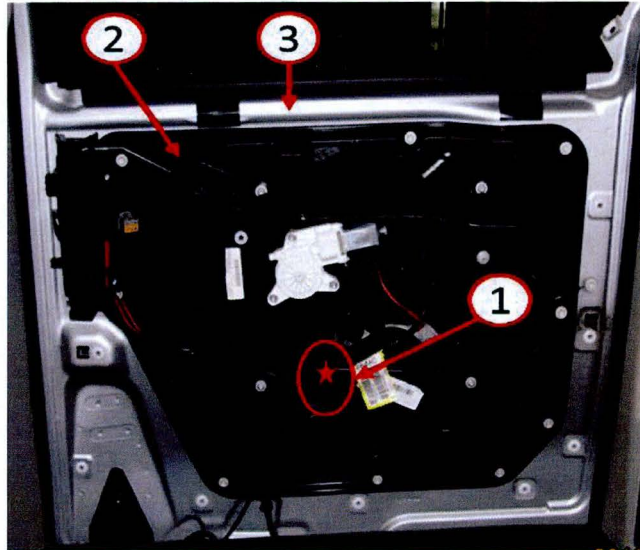

Fig. 4 Door Module Preparation
- Carefully drill a 5/16"(8mm) hole through door module at the center of the formation/standoff (1) directly above the door module (if equipped) or just forward of the part number tag (Fig. 4).